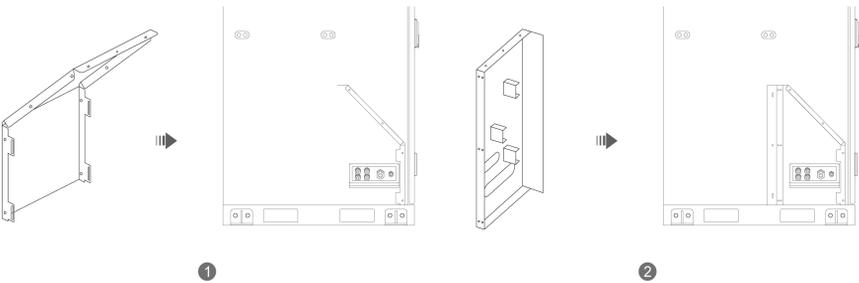

Figure.1
1. Install the part 1 and part 2 onto the battery cabinet, and then secure with screws. See the Figure.1.